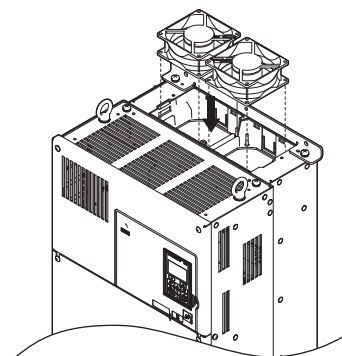

Figure 7.15 Installing the Cooling Fan: 4□0075 and 4□0091
1. Install the replacement fan into the drive. Align the pins as shown in Figure 7.15.
3. Angle the fan cover as shown in Figure 7.15 and insert the connector tabs into the corresponding holes on the drive.